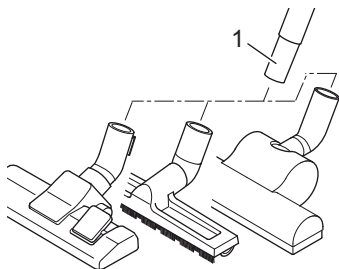
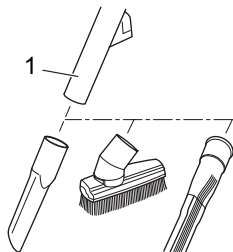

Fig. 10
Fig. 11
2. Remove the nozzle from the telescopic tube (Fig. 10/1).
3. Attach the desired nozzle to the lower end of the telescopic tube (Fig. 10/1) or directly to the handle (Fig. 11/1).